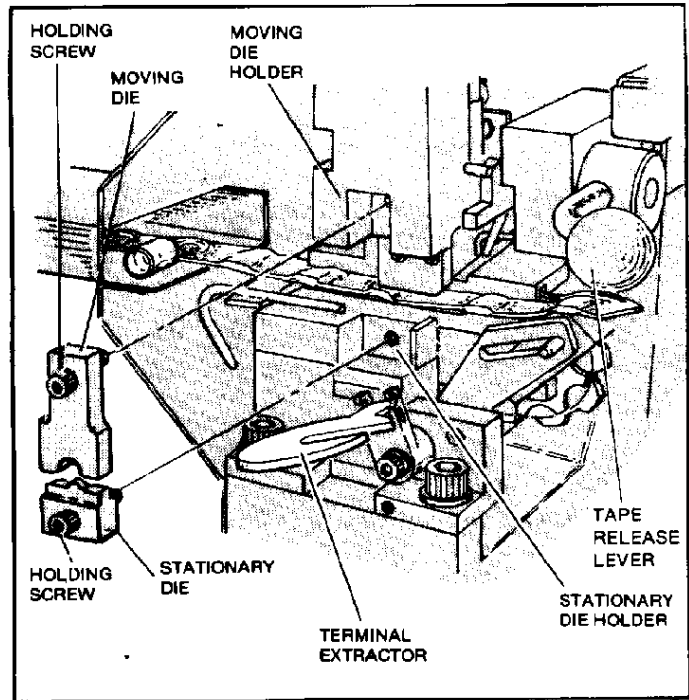

Figure 2
- Remove front applicator guard, then depress terminal extractor (see Figure 2) and pivot it away from crimping die holder.
- With tape release lever "up", insert moving (upper) die into die holder and tighten holding screw. See Figure 2.
- Insert stationary (lower) die into die holder and tighten holding screw. See Figure 2.